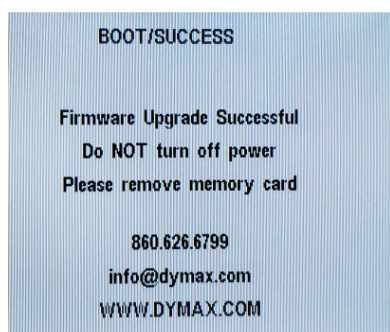

Figure 4. Firmware Upgrade Successful
9. Once complete, the BOOT/SUCCESS screen (Figure 4) will appear.